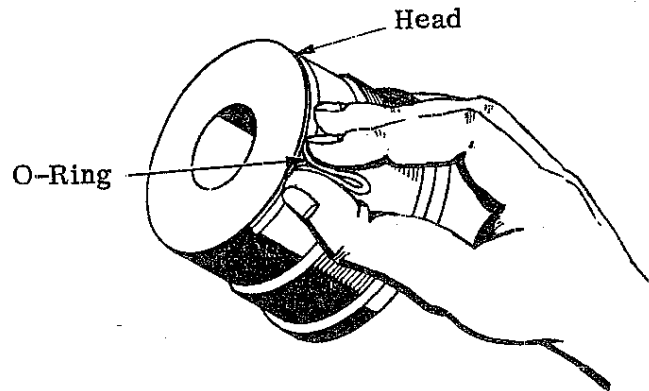

Figure E-3. O-Ring Removal
10. Work a slack section into the head seal static o-ring and pick it up out of the groove (Figure E-3). Lift the static back-up out of its groove with the needle-nose pliers.